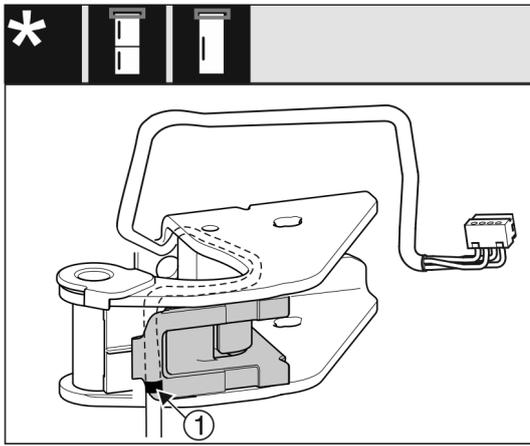

Fig. 19
- ▶ Place the middle marking on the edge of the cable holder Fig. 19 (1).